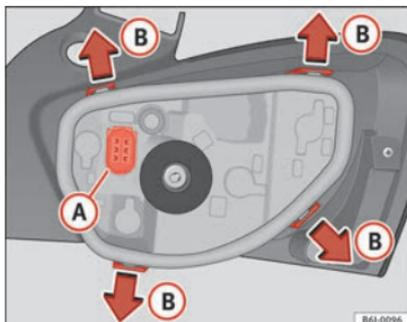

Fig. 106 Changing the tail light bulbs
- Remove the bulb holder, separating it from the casing. To do this, press tabs **B** in the direction of the arrows » Fig. 106.